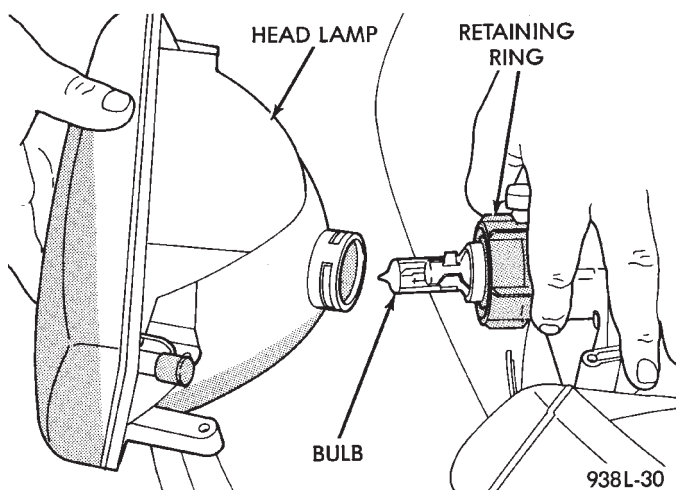

Fig. 1 Headlamp Bulb
- (1) Release hood latch and open hood.
- (2) Remove screws holding headlamp to module assembly.
- (3) Separate lamp from module.
- (4) Disengage wire connector from back of headlamp bulb.
- (5) Remove retaining ring holding bulb to lamp.
- (6) Pull bulb from lamp (Fig. 1).